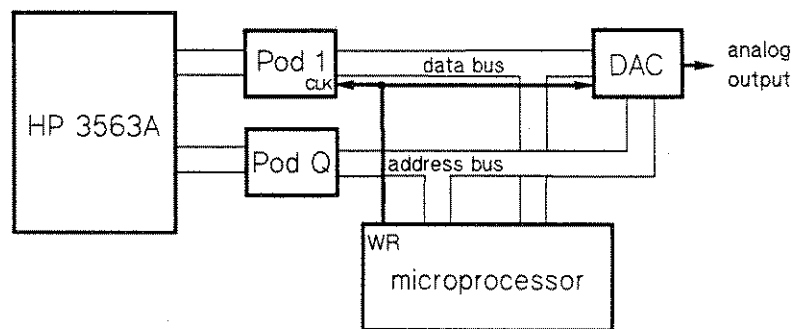

Figure 13-13. Example of Qualifier Selection
In figure 13-13 a microprocessor generates a digital signal which is written to a DAC (digital-to-analog converter) connected to the microprocessor bus. The data is transferred using a write pulse (WR) in conjunction with an address. To read the same data with the HP 3563A, the WR signal is connected to the CLK input on Pod 1. This signal serves as the data clock. The address lines are connected to Q0–Q7 on Pod Q. These serve to qualify the data clock. The qualified data clock is called a *channel clock*. The data clock generates a channel clock when the qualifier signal states match a user-specified pattern. Note that this configuration offers access to another channel of data by specifying another qualifier pattern for Channel 2; without connecting Pod 2.